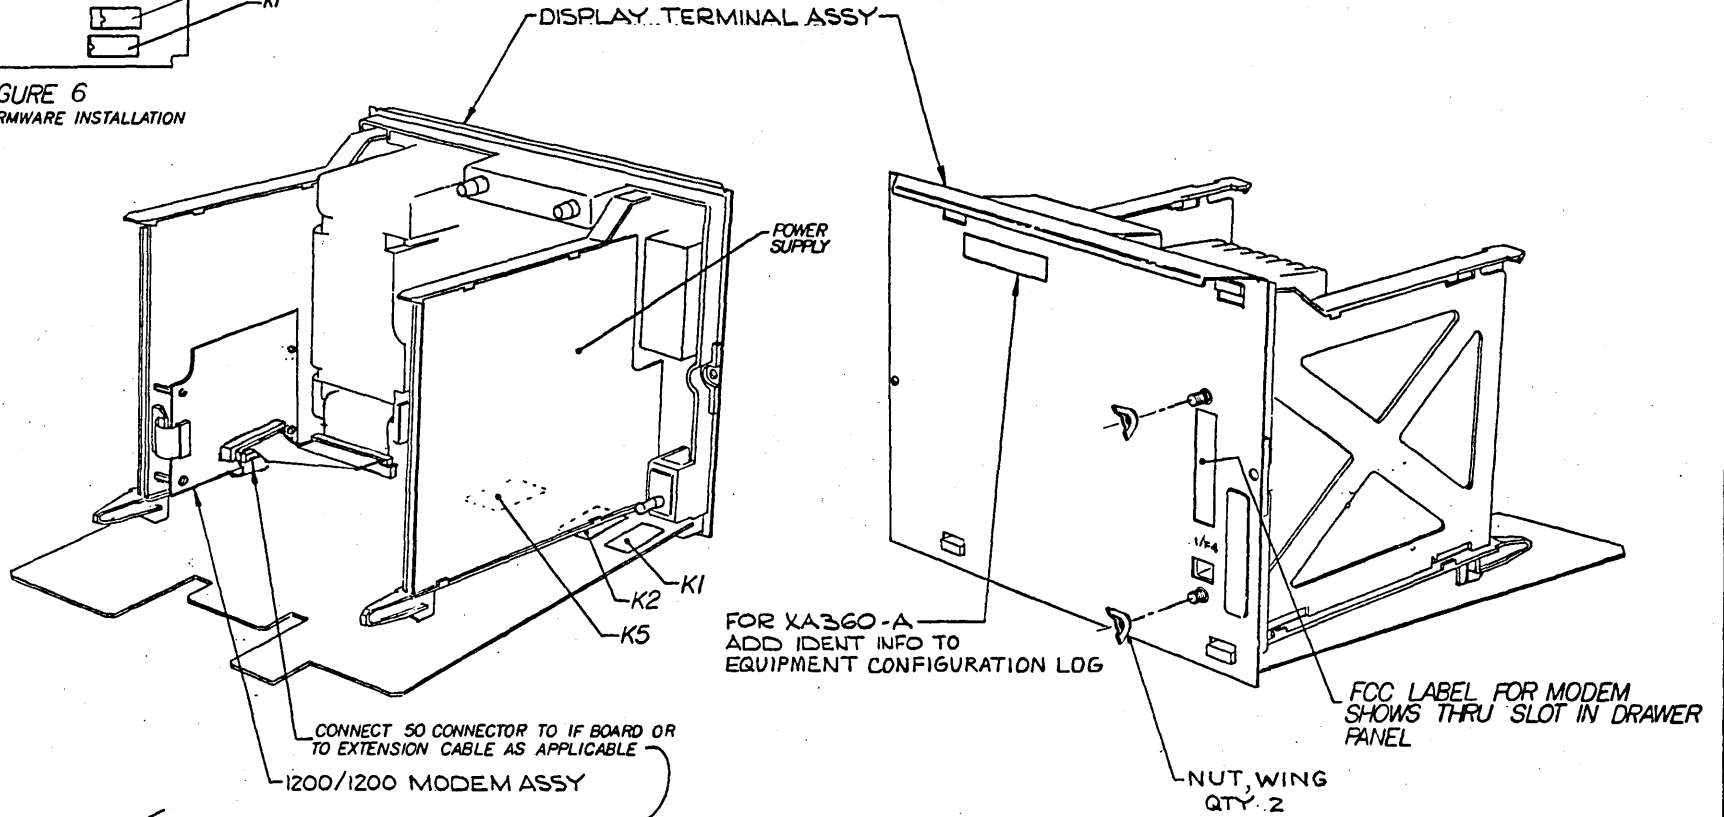

FIGURE 5
3. REMOVE FIRMWARE CHIPS FROM LOCATIONS K1, K2 AND K5 ON MAIN LOGIC BOARD (SEE FIGURE 5 & 6 NOTE CHIP ORIENTATION AS REPLACEMENT CHIPS WILL BE ORIENTATED THE SAME).